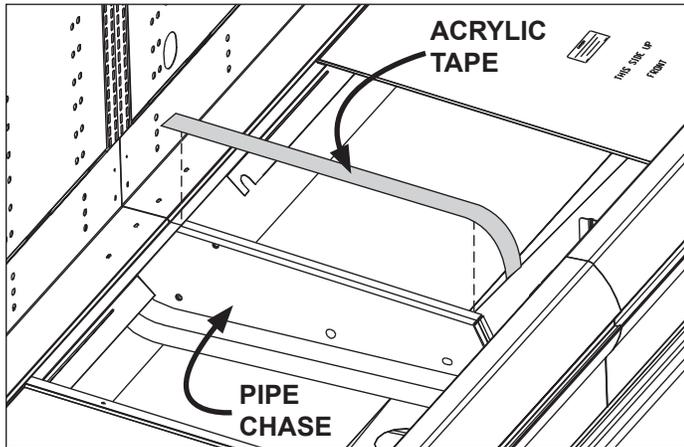

Fig. 5 Sealing the pipe chase
1. Seal the interior case-to-case joints with caulk (supplied), then apply acrylic tape (supplied) over the pipe-chase seam (Fig. 5). The tape acts as a watershed preventing water from settling in the case joint.